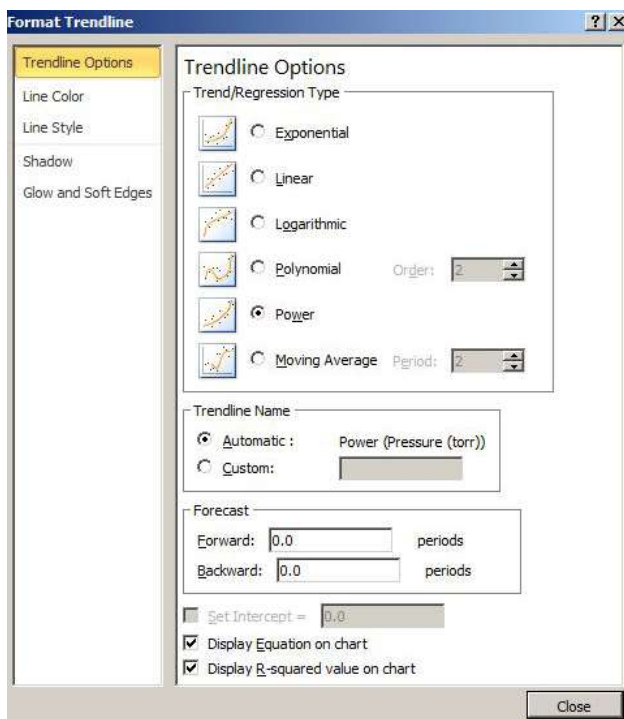

Figure 8.12: Adding a curve fit (trend line). credit: author
- Open the **Add Trend line** menu (Figure 8.12) by selecting a data point on the graph and right clicking or choosing the Trendline option on the Chart Tools Layout menu.